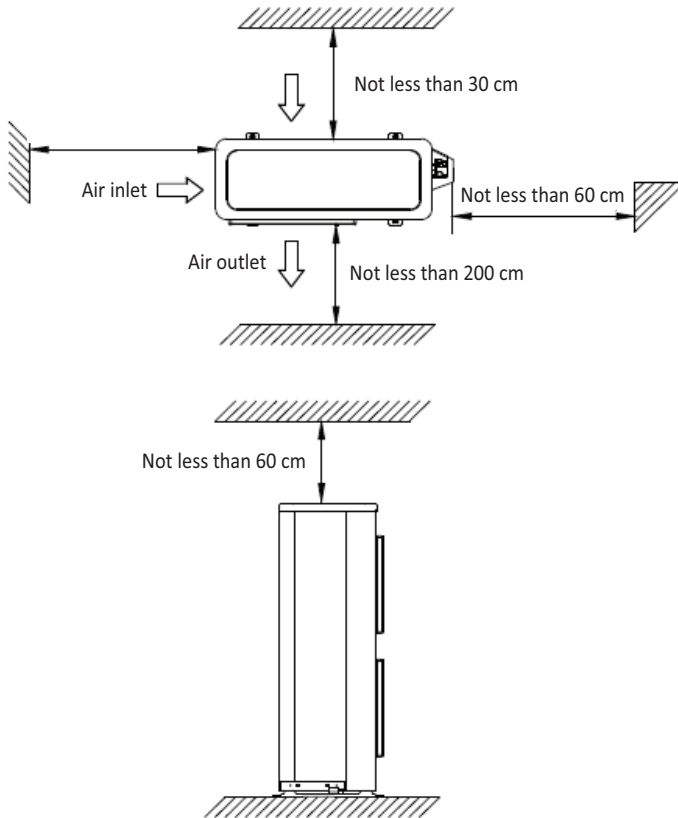

Fig. 7.1.1.
- Dimension Requirements on the installation space of the unit (fig 7.1.1):